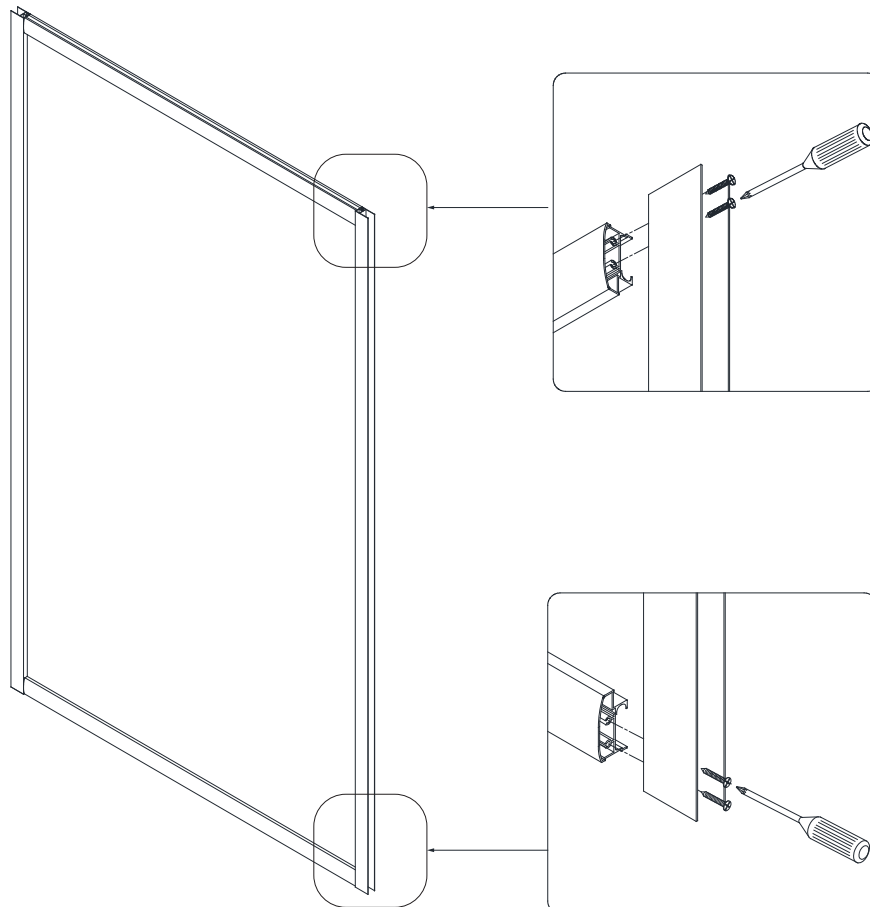

Fig 5
4. Secure the **Bottom Guide Rail (#03)** and **Top Guide Rail (#03)** to the **Glass Profiles (#01)** with the **Round Head Screws ST4.2x25 (#10)**. **(Fig 5)**